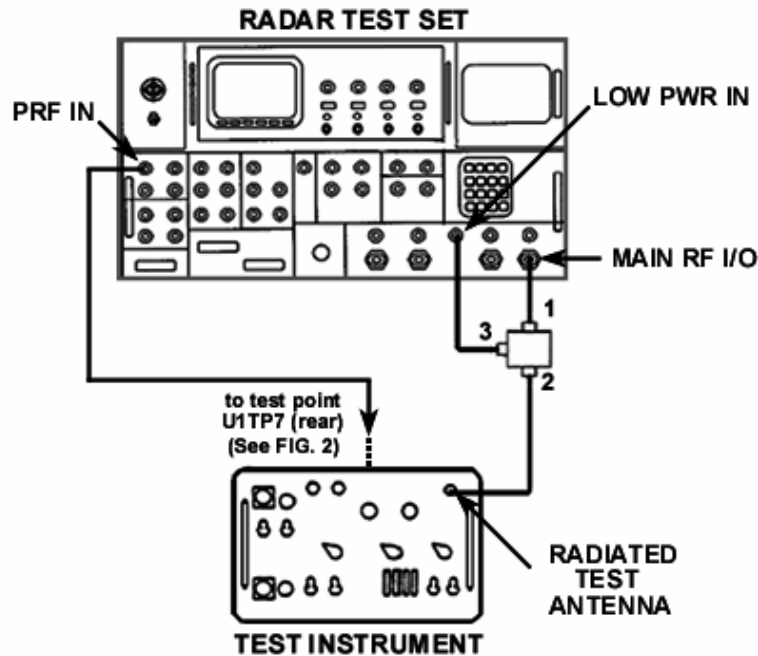

Figure 1. Receiver sensitivity – equipment setup.
- k. Connect equipment as shown in figure 1.
(3) Remove cable from TI **RADIATED TEST ANTENNA** connector (fig. 1) and connect end of cable to peak power meter sensor.
(4) On radar test set **Menu 11**, set **CW** to **ON** and measure and record power output at end of cable while cycling RF output between power settings noted in (2) above for threshold point. Average result should be -6 dBm  $\pm 1$  dB, if not perform **b** below.
(5) Set radar test set **Menu 11**, **CW** to **OFF**. Disconnect cable from peak power sensor and reconnect to the TI **RADIATED TEST ANTENNA** connector (fig. 1).
(2) Set TI **POWER** switch to **ON**.
(3) Connect end of cable which was connected to TI **RADIATED TEST ANTENNA** connector (fig. 1) to peak power meter sensor.
(4) On radar test set **Menu 11**, set **CW** to **ON** and adjust RF power to obtain a reading of -6 dBm on peak power meter.